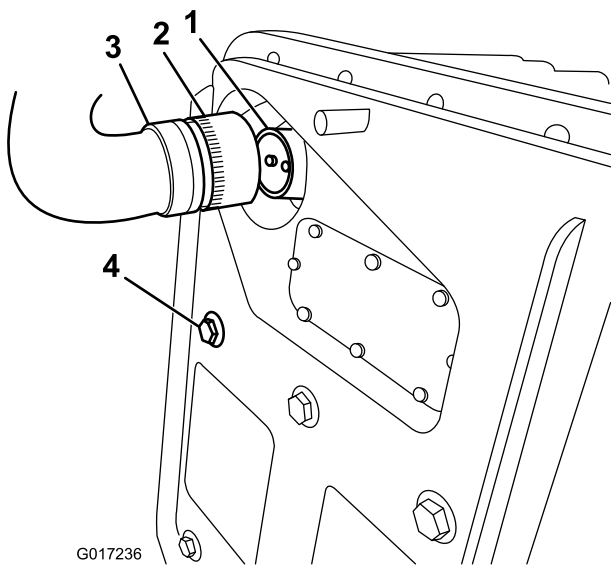
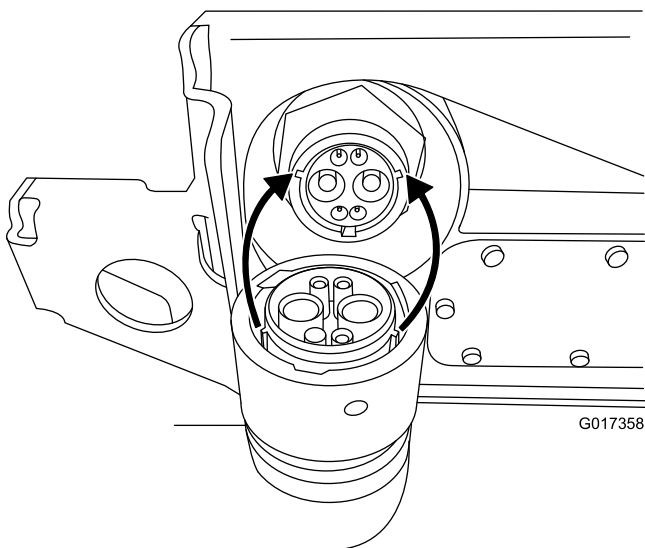

Figure 10
Figure 11
9. Line up the tabs on the inside of the harness power plug with the slots in the battery pack receptacle. Press the harness connector into the battery connector (Figure 10 and Figure 11).